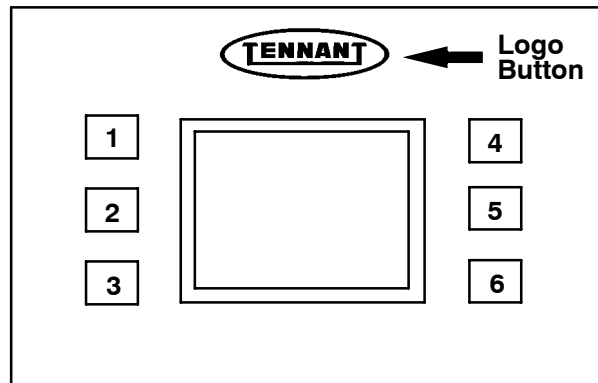

FIG. 1
2. To access the first diagnostic menu, simultaneously turn the key switch on while holding down the TENNANT Logo button (Refer to Fig. 1 for location of logo button on instrument panel). Hold the button for 5 seconds before releasing it. Use the logo button to scroll through diagnostic menus. **Scroll through each menu and record each programmable machine mode.**
NOTE: If the machine has software revision KSC 021904, the hour meter will not be accurate if the machine has more than 100 hours. Call Tech Services for instructions how to clear the hour meter to zero. Refer to Fig. 1 for locations of switches 1 through 6 on instrument panel.